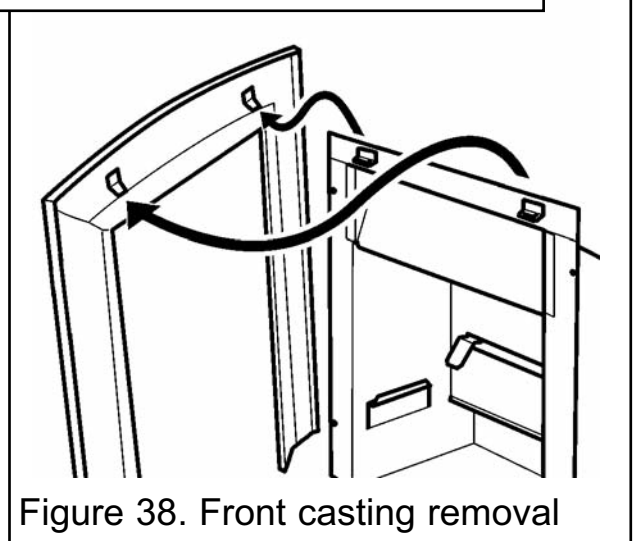

Figure 38. Front casting removal
3. Carefully lift the fascia upward to clear the upper retaining brackets on the hotbox - (See figure 38). Pull the fascia clear and place carefully aside.
2. Hold the sides of the fascia and lift clear of the support brackets (See figure 38).